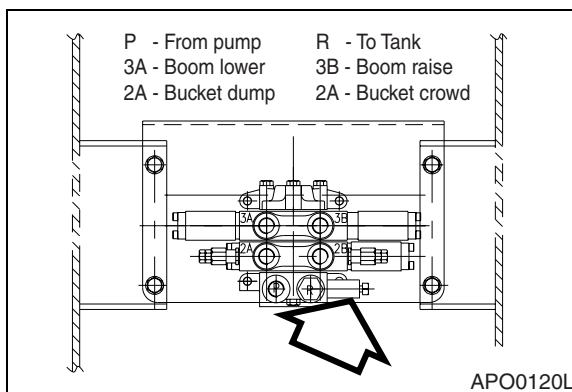

Figure 94
3. Adjust screw on relief valve cartridge (Figure 94). Loosen lock nut and turn screw clockwise to raise relief pressure. Turn screw counterclockwise to lower relief pressure.